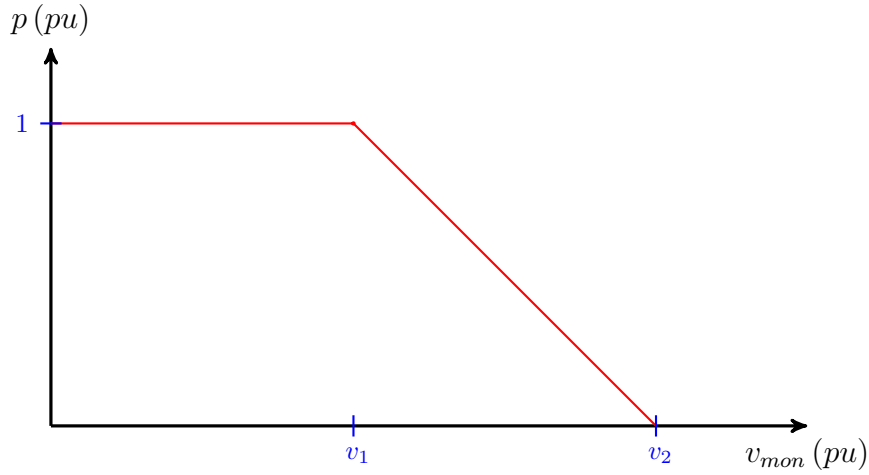

Figure 10: volt-watt curve
**Smart inverter volt-watt function** For the smart inverter volt-watt function, the monitored voltage in *pu* is applied,  $v_{mon}[t]_j$ , in the volt-watt curve defined in the *voltwatt\_curve* property to obtain the active power limit value in *pu*,  $p_{Lfun}[t]_j$ . The Figure 10 shows an example of a user-defined volt-watt curve.